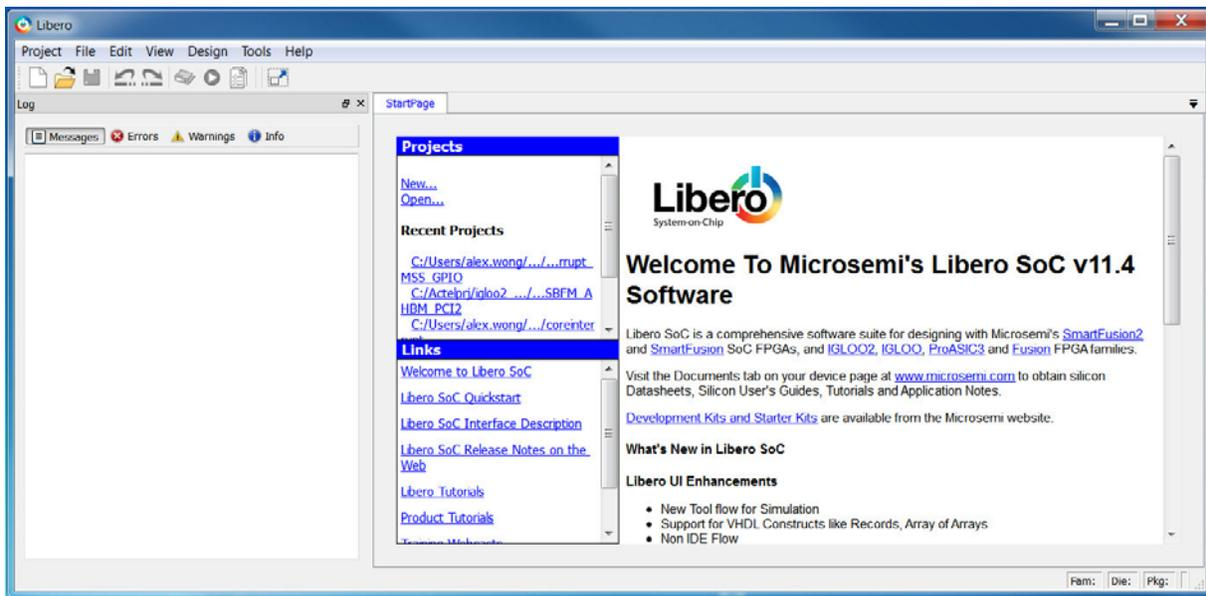

Figure 1-1 • Libero SoC
1. Click **Start > Programs > Microsemi Libero SoC v11.4 > Libero SoC v11.4** Libero SoC opens (Figure 1-1).